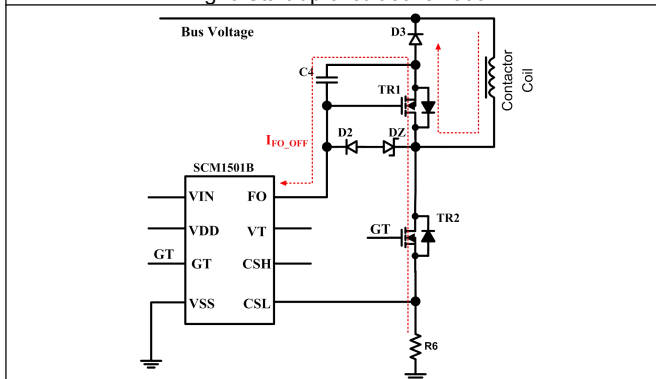

Fig. 8 Circuit schematic diagram of turn-off stage
(3) Figure 8, In the turn-off stage, see the circuit schematic of the shutdown phase. The MOS transistor TR2 is not turned on, and the FO will draw the current of the capacitor C1. The path of the current sinking I_{FO_OFF} is as follows: the current of the C1 is drawn through the body diode of the MOS transistor TR2 and the MOS transistor TR1. At this time, the MOS transistor TR1 operates in the sub-threshold state, and the drain terminal voltage of the MOS transistor TR1 is relatively large, and the voltage value is $V_{TH} + V_{DZ}$, wherein V_{TH} is the conduction threshold voltage of TR1, and V_{DZ} is the voltage regulation value of the Zener diode DZ. At this time, the demagnetization voltage of the contactor coil becomes large, the coil current is attenuated quickly, and finally the effect of fast turn-off is achieved.